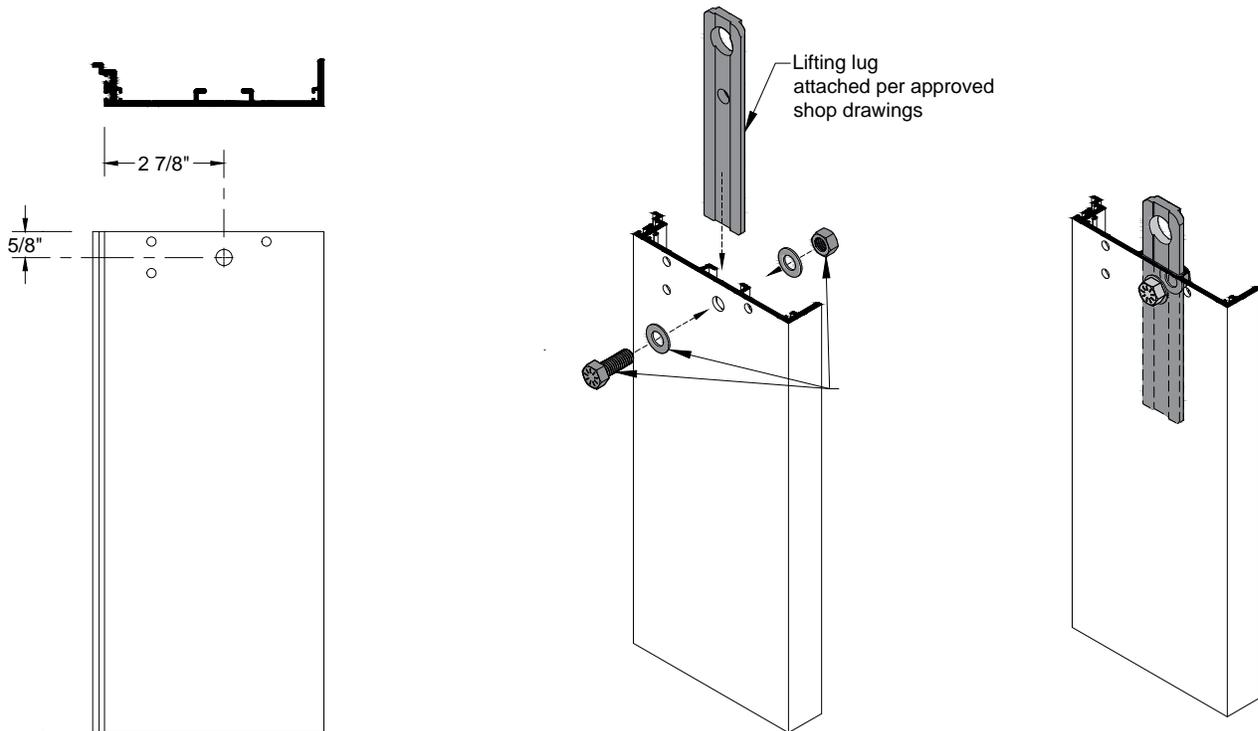

Fig. 37.1
- A. For multi-span applications or shop glazed frames requiring lifting lugs, attach the lifting (alignment) lugs to the tops of the verticals on each side per approved shop drawings. See Fig. 37.1 & 37..1